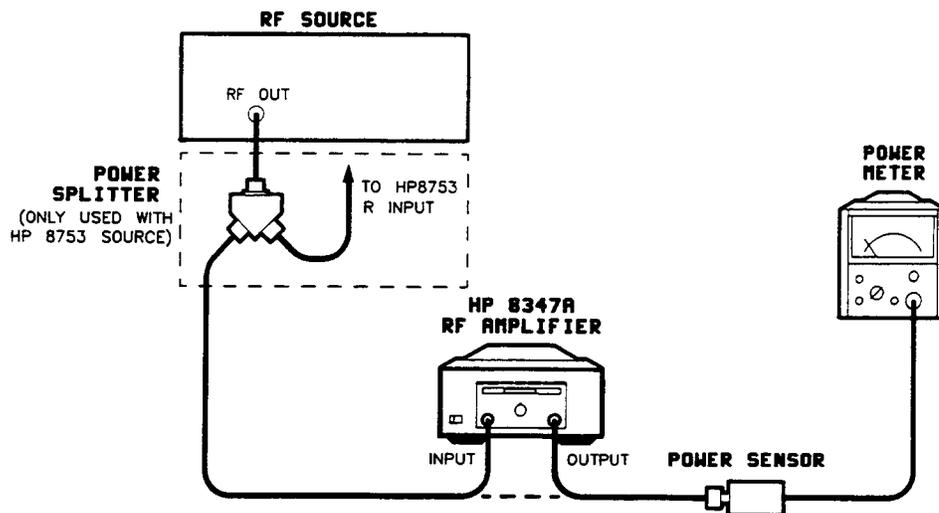

Figure 4-2. Gain Test Setup
6. Set up the equipment as shown in Figure 4-2, making sure the power sensor's cal factor chart is visible.
12. Set up the equipment as shown in Figure 4-2, making sure the power sensor's cal factor chart is visible.